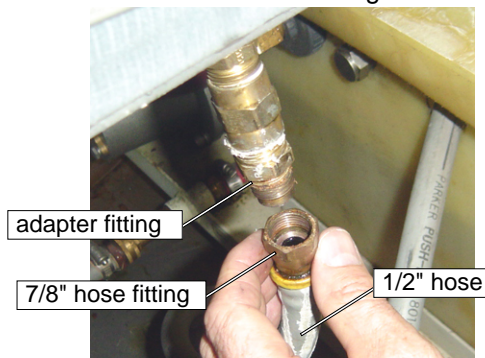

Figure 4: Remove the Drain Hose from the ADO
5. Remove the drain hose beneath the ADO using the 7/8" open-end wrench (Figure 4).